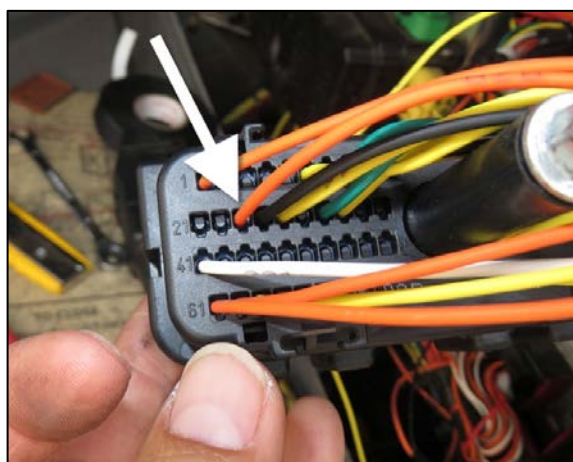

Figure 35
71. Locate position 23 on the A1 module connector (Figure 35).